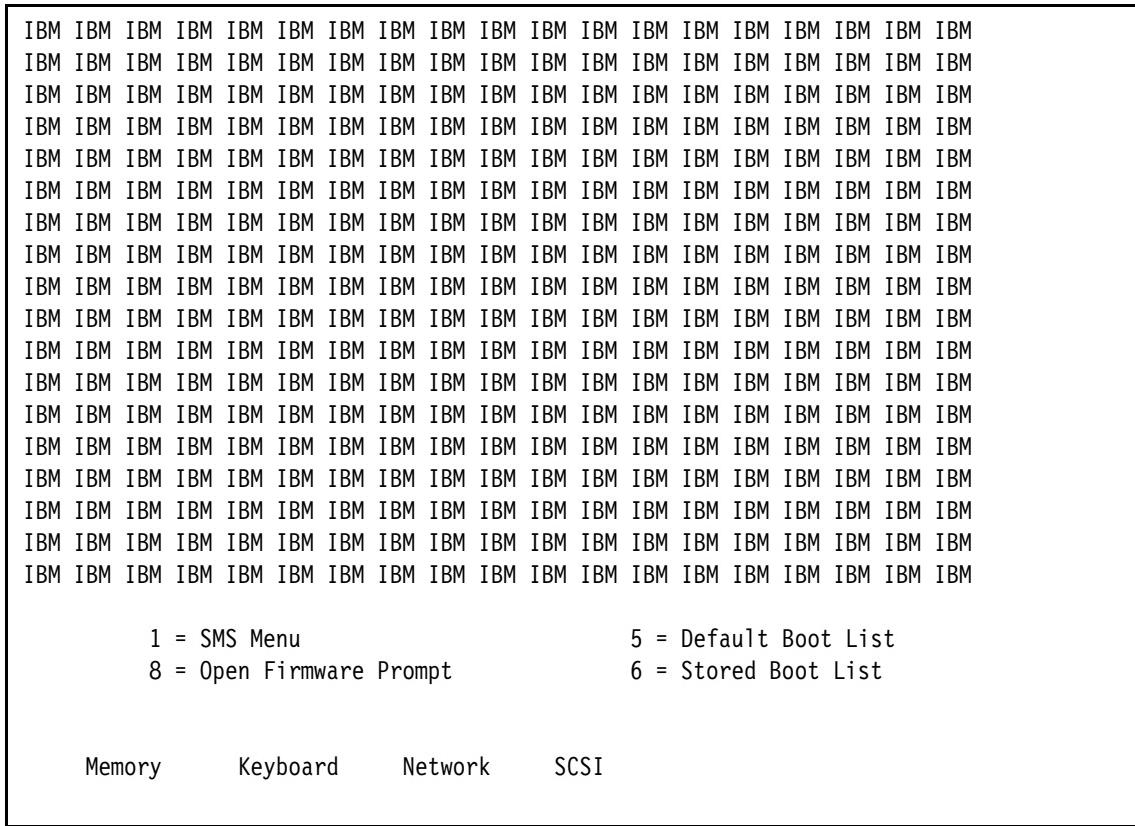

Figure 12-4 Enter SMS Menu
- Boot your blade server and hit 1 to enter the SMS menu, as shown in Figure 12-4 on page 466.
Note: Pay attention to the welcome screen shown in Figure 12-4 on page 466. It has a short time out, and if you miss it you'll need to reboot the machine.
1. Boot your blade server and hit 1 to enter the SMS menu, as shown in Figure 12-4 on page 466.